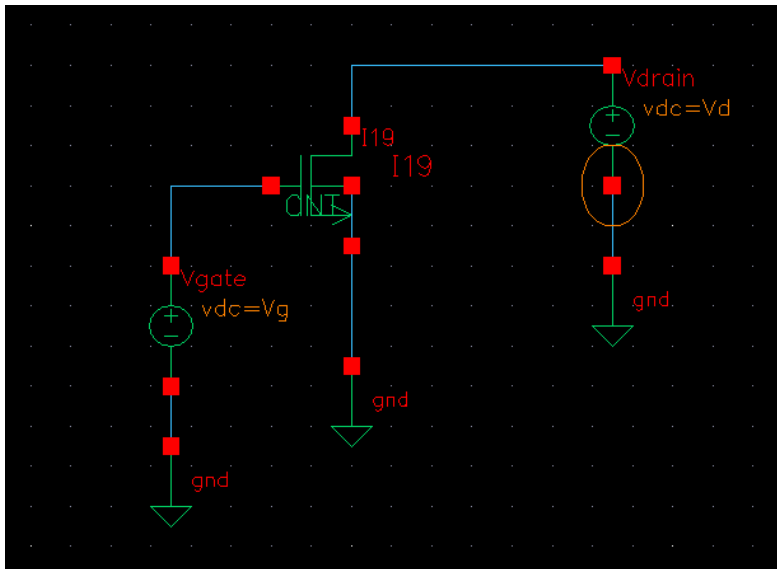

Fig. 2: DC Simulation
6. DC Simulation: Run a standard simulation as shown in Fig 2 using the default parameters.